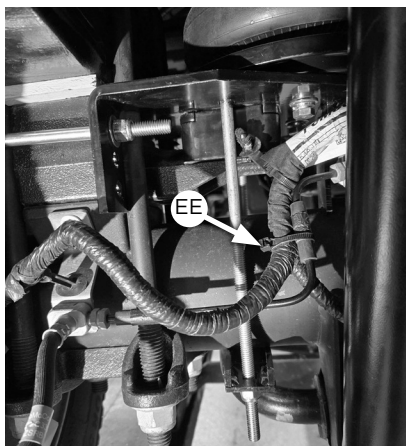

Fig. 39
- Relocate the left ABS harness by securing the lower portion of the left ABS harness to the rubber brake line cover using zip tie (EE) (Fig. 39).